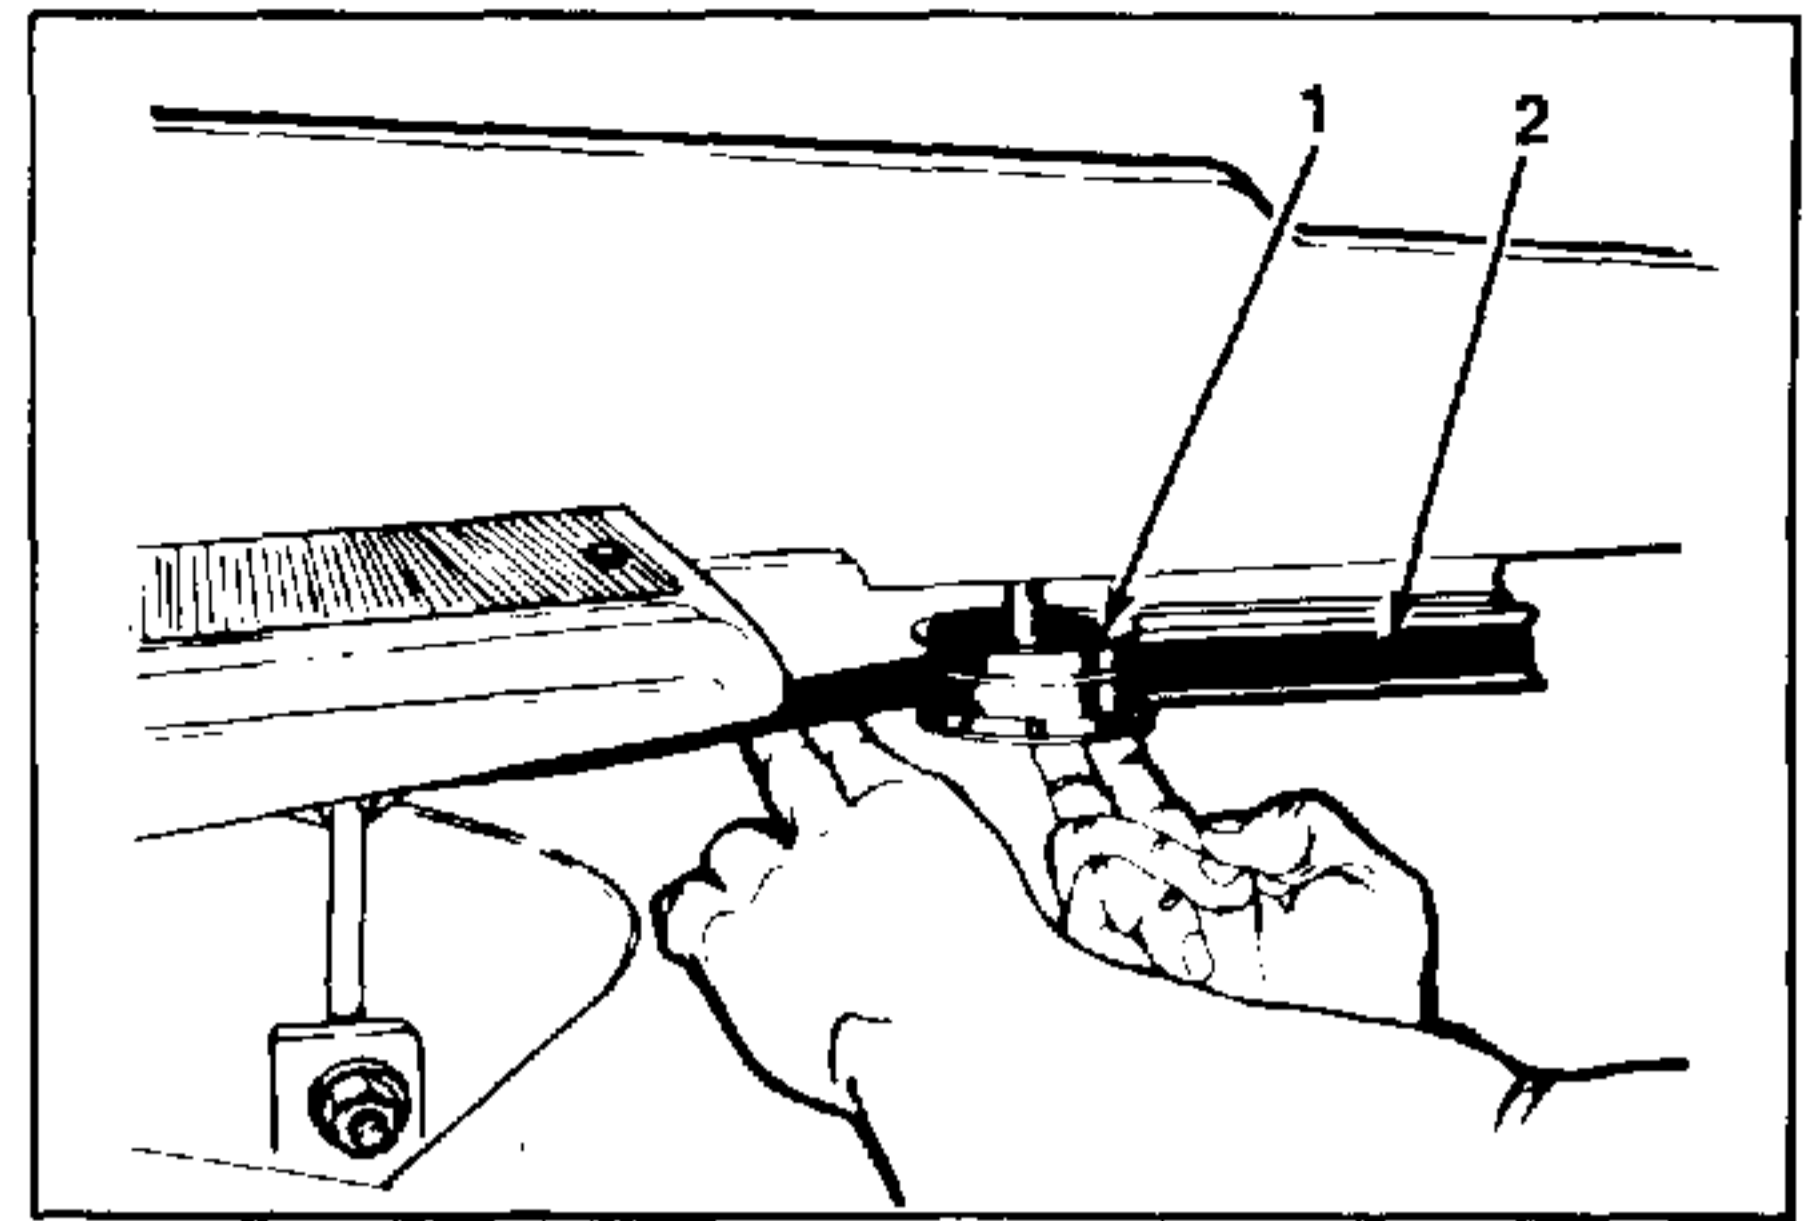

FIGURE 12.
14. Pull idler pulley away from the tractor and then place drive belt behind it. Release idler pulley. Refer to figure 12.